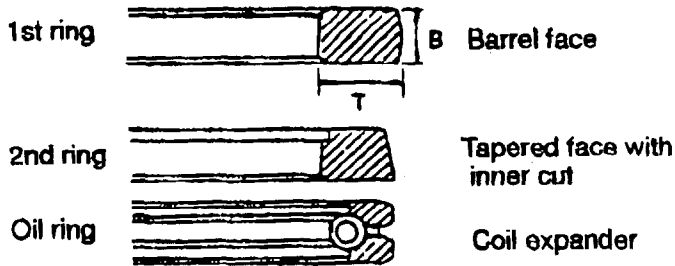

Figure 5-34. Piston Ring Dimensions
*Refer to Figure 5-34 for definition of dimensions T and B.